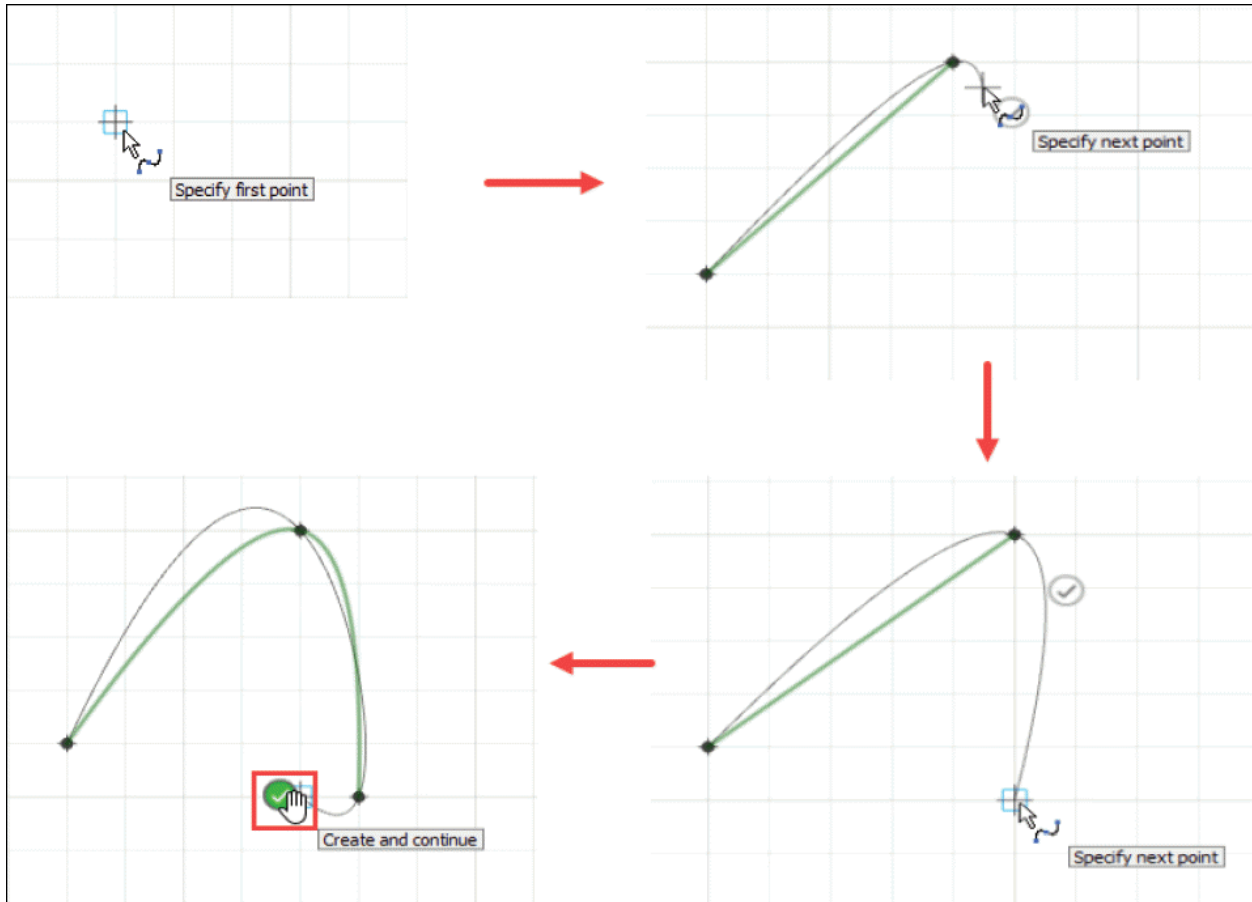

Figure-38. Creation of fit point spline
- Specify other points at desired locations to form spline of desired shape; refer to Figure-38.